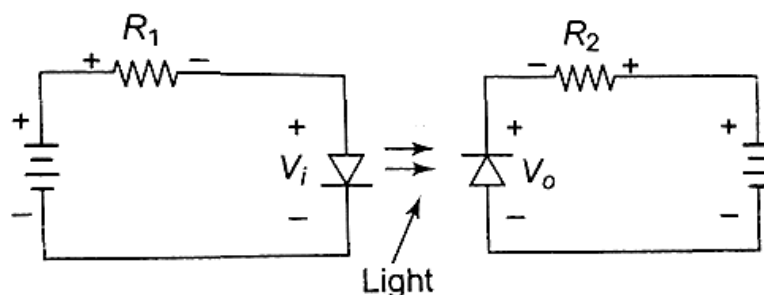

Fig.1.34: Photo coupler
- Photo coupler is a package of an LED and photodiode where circuits are electrically isolated** as shown in Fig.1.34.